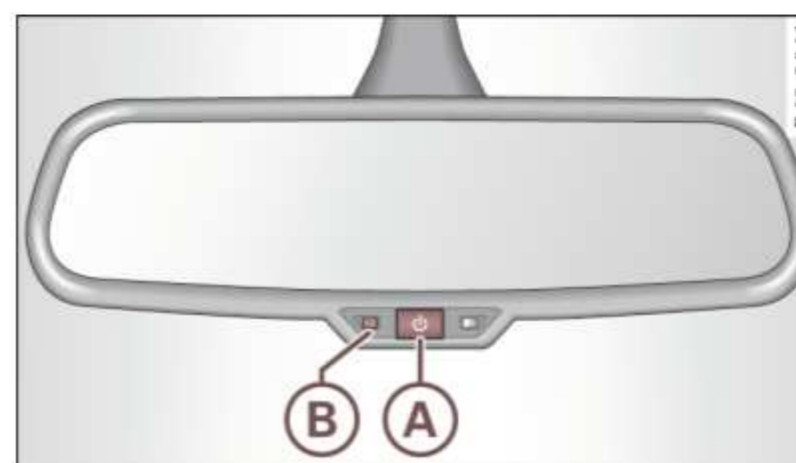

Fig. 54 Inside rearview mirror: auto dimming on/off button and indicator light
- Press button **A** ⇒ fig. 54 - the green indicator light **B** goes out.
- Press button **A** ⇒ fig. 54 - the green indicator light **B** goes on.